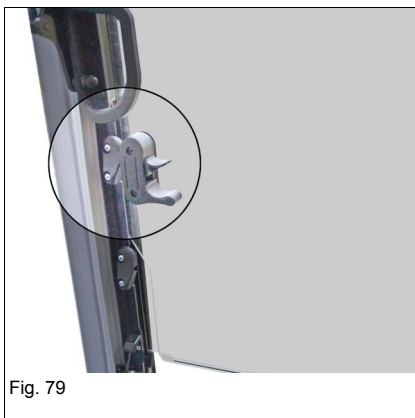

Fig. 79
- ▶ The lower front window must be fully open when the entire front window is opened or closed (*Fig. 79*).